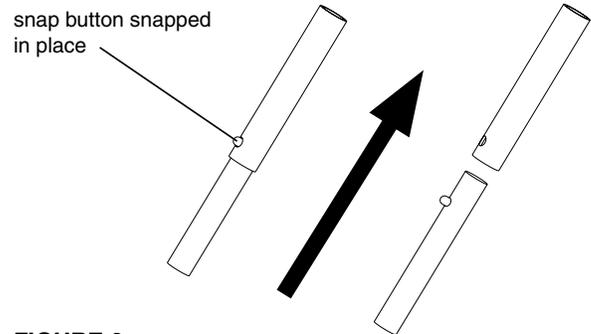

FIGURE 9
8. Assemble the two sets of door spreader poles (69356 & 69357) by sliding the male half into the female half and snapping in place with snap button. **SEE FIGURE 9.**
1. Unzip door and move to the inside of shelter and extend the (3) top cross brace poles and snap into place. Place back spreader pole with stud, both roof spreader poles and both door spreader poles into position by snapping C-clip over cross brace poles. For back spreader pole, simply place end with stud into pre-drilled hole in back lip of sled. Attach all Velcro loops to cross brace poles. **SEE FIGURES 9 & 10.**